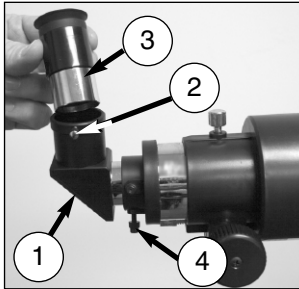
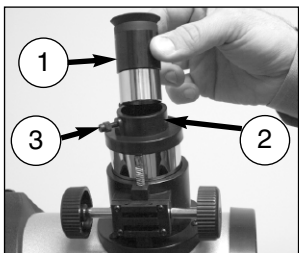

Fig. 9: Attach the diagonal prism (1), tighten prism thumbscrews (2), insert the eyepiece (3), tighten eyepiece thumbscrews (4) (Reflector models).
Fig. 10: Insert the eyepiece (1) into the eyepiece holder (2), tighten eyepiece thumbscrew (3) (Reflector models).
11. **Insert the eyepiece:** Remove the supplied eyepiece (3, Fig. 9) from its container and place it in the diagonal prism (reflector models only, 1, Fig. 9) or directly into the eyepiece holder (2, Fig. 10, reflector models only). Tighten the thumbscrews (2 and 4, Fig. 9, reflector models only) to a firm feel only. Tighten the thumbscrew (3, Fig. 10, reflector models only) to a firm feel only.